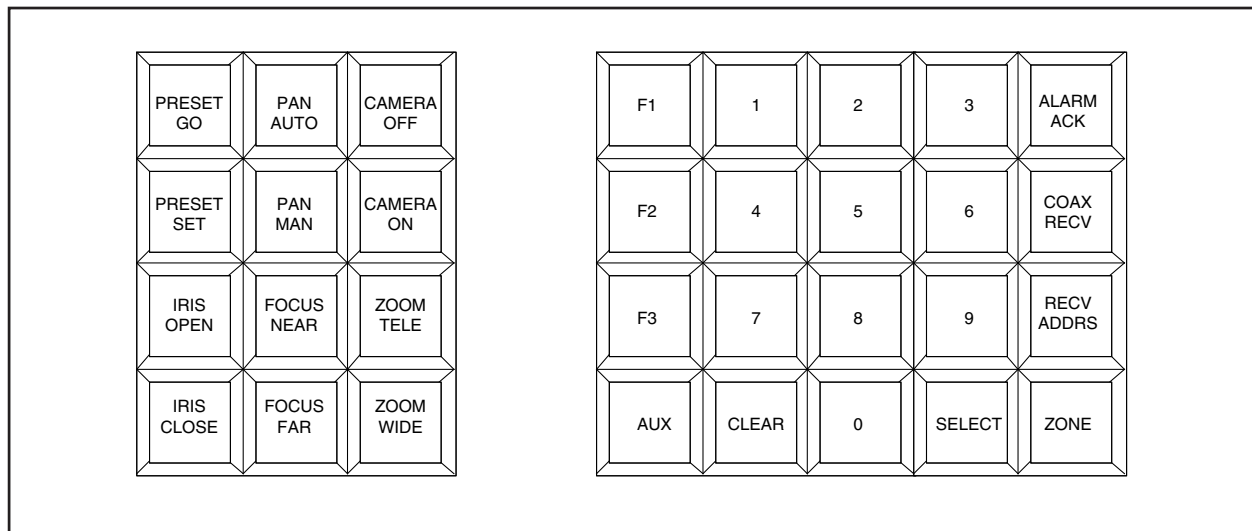
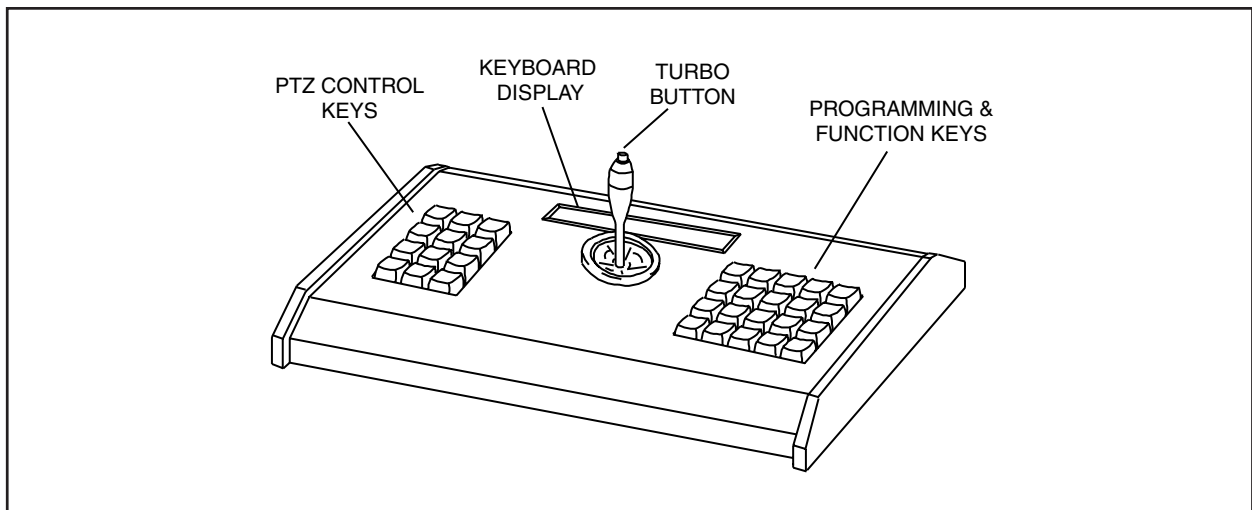

Figure 6. MPT9500 Keypad Layout
Figure 7. MPT9500 Layout of Operating Controls & Functions
Normal pan/tilt and lens functions will operate by pressing the appropriately labeled buttons on the keypad. In general, operation and control functions of receivers are actuated by the grouped keys on the left side of the keyboard while programming functions utilize the grouped keys on the right side of the keyboard. Refer to Figure 6 and Figure 7 for keypad layout and keyboard control descriptions respectively
At the flashing cursor position, you may cycle through the available characters either continuously or one at a time by appropriate use of the joystick up/down controls. Moving the joystick left or right changes the next label character placement position. Holding the joystick up/down or left/right with the joystick turbo button depressed (see Figure 7) causes the characters to change, or the cursor to move more rapidly. The receiver will accept labels up to 20 characters in length. After the label is completed, press the F2 key to send the label to the receiver.
**NOTE:** Before programming a tour for the **FIRST TIME**, it is recommended that you clear the programming area by pressing the turbo button on the joystick (see Figure 7).
**NOTE & WARNING:** *While in the programming preset tours mode, you may delete all previously programmed tour steps by pressing the turbo button on the joystick (see Figure 7). Make sure you really want to do this before pressing the button.*